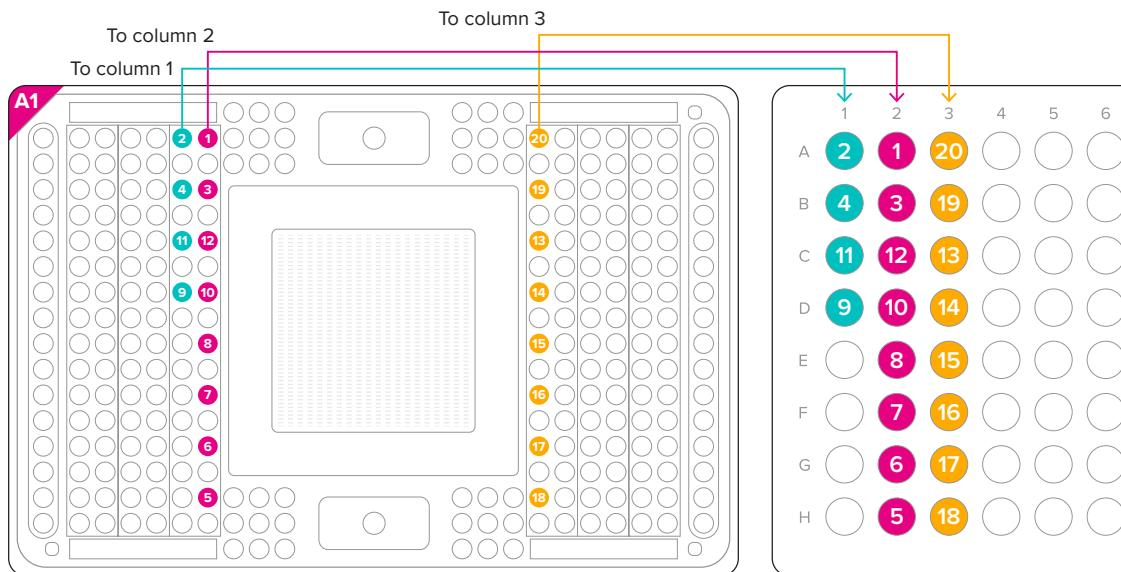

Figure 12. HT IFC harvest pipetting map (numbers refer to HT IFC column position)
- 6** Using a P20 multichannel pipette set to 6 µL, transfer the harvested amplicons from each column of HT IFC inlets and into the corresponding wells of the harvest plate (see Figure 12) containing DNA Suspension Buffer, for a total volume of ~50 µL in each well. The exact volume harvested from each well may vary. The expected volume is 3–6 µL.